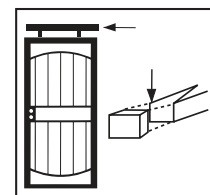

FIGURE 7
7. Insert plugs in ends of header. Mount header jamb at top of door using remaining 2 one-way screws. Leave approximately 1/8 in. space between header jamb and top of door frame (Fig. 7).